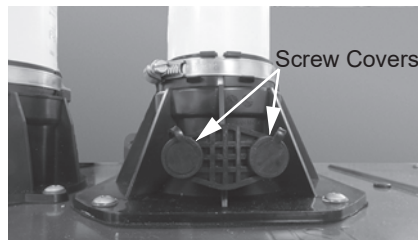

Figure 64 - Emission port location
- 3 Locate the emission port cap at the outlet exhaust port on the water heater as shown in Figure 64.